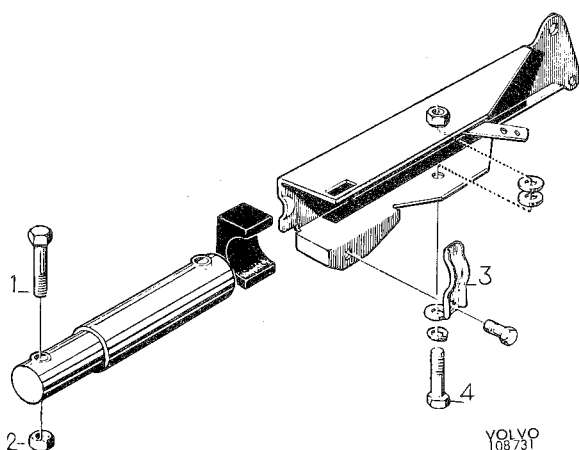

Fig. 8-99. Front impact absorber
The front bumper is removed as follows: First remove the directional indicators. Then take off the rubber cover washers which are situated in the cover strip over the bumper. Thereafter release the nuts (2, Fig. 8-99) and pull out the bolts (1). Finally take off the bumper complete. Installing is in reverse order to removal.
The impact absorbers are removed by taking off the clamps (3, Fig. 8-99), and then releasing the nuts and taking off the bolts (4). Now the bumper with impact absorbers is completely loose and can be taken off. Thereafter undo the bolting (1 and 2) and replace the impact absorber with a new one by first fitting it to the bumper, but without tightening up the bolting. Then fit the impact absorber to its rear attachment. Fit the bolt (4) with spring washer, spacer washer (one on each side of the impact absorber) and the nut but without tightening the nut. Now fit the clamp (3). Use polygrip pliers. Thereafter tighten up bolts and nuts.